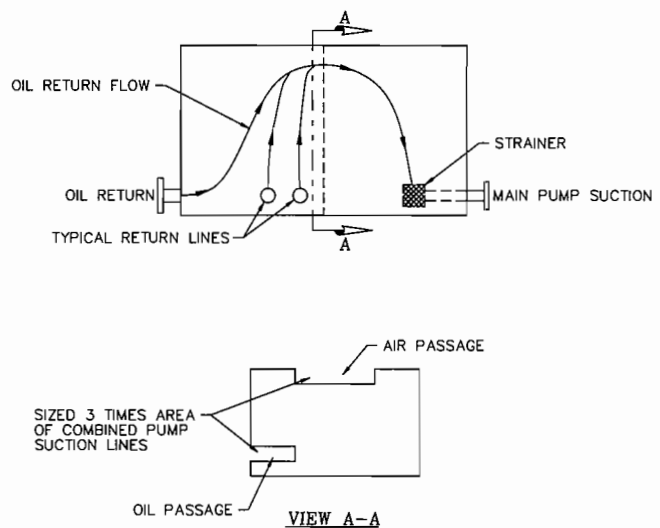

Figure 2. Reservoir Baffle Orientation and Design.
- **Baffle**—The function of the baffle is to separate pump suction from oil returns. Oil returns include return from process pumps and auxiliaries, lube oil pump relief valves, returns from pressure control valves, filter vents, control valve head, and instrument vents. Baffles should have an air passage at the tank top equal to three times the area of the auxiliary and main pump suction lines combined. A baffled passage is strategically located two inches above the tank bottom. This baffle should have the greatest possible distance between the main pump inlet and return line to allow oil to pass from the return side to the suction side of the reservoir. Try to make the oil travel as long a path as possible from the time it returns to the reservoir until it reaches the pump suction to provide the maximum amount of time for settling of contaminants (Figure 2).
Baffle design and location are shown in Figure 2. Suction and return locations in the reservoir and reservoir capacities are shown in Figure 3.